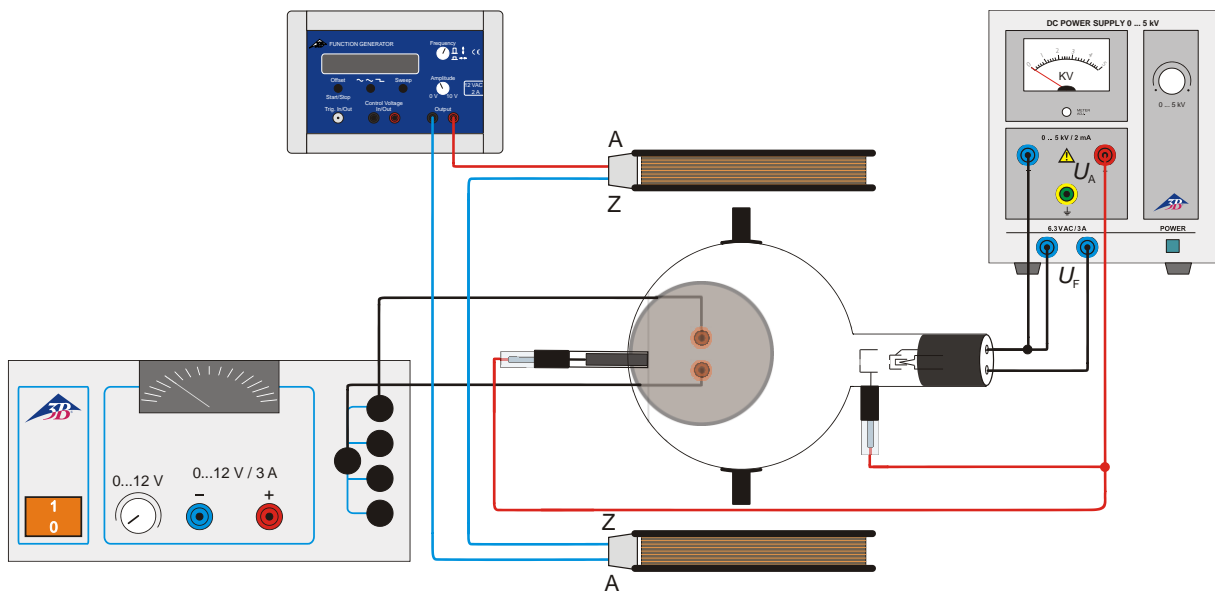

Fig.4 Deflection in crossed magnetic alternating fields (Lissajous figures)
- Set up the experiment as in fig. 4.